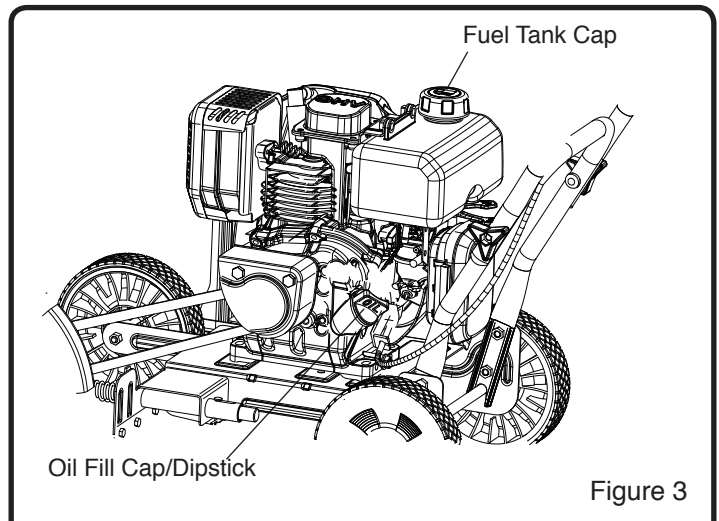

Figure 3
1. Remove the oil fill cap/dipstick and wipe clean with cloth. (See Figure 3)
1. Clean surface around fuel tank cap to prevent contamination. (See Figure 3)